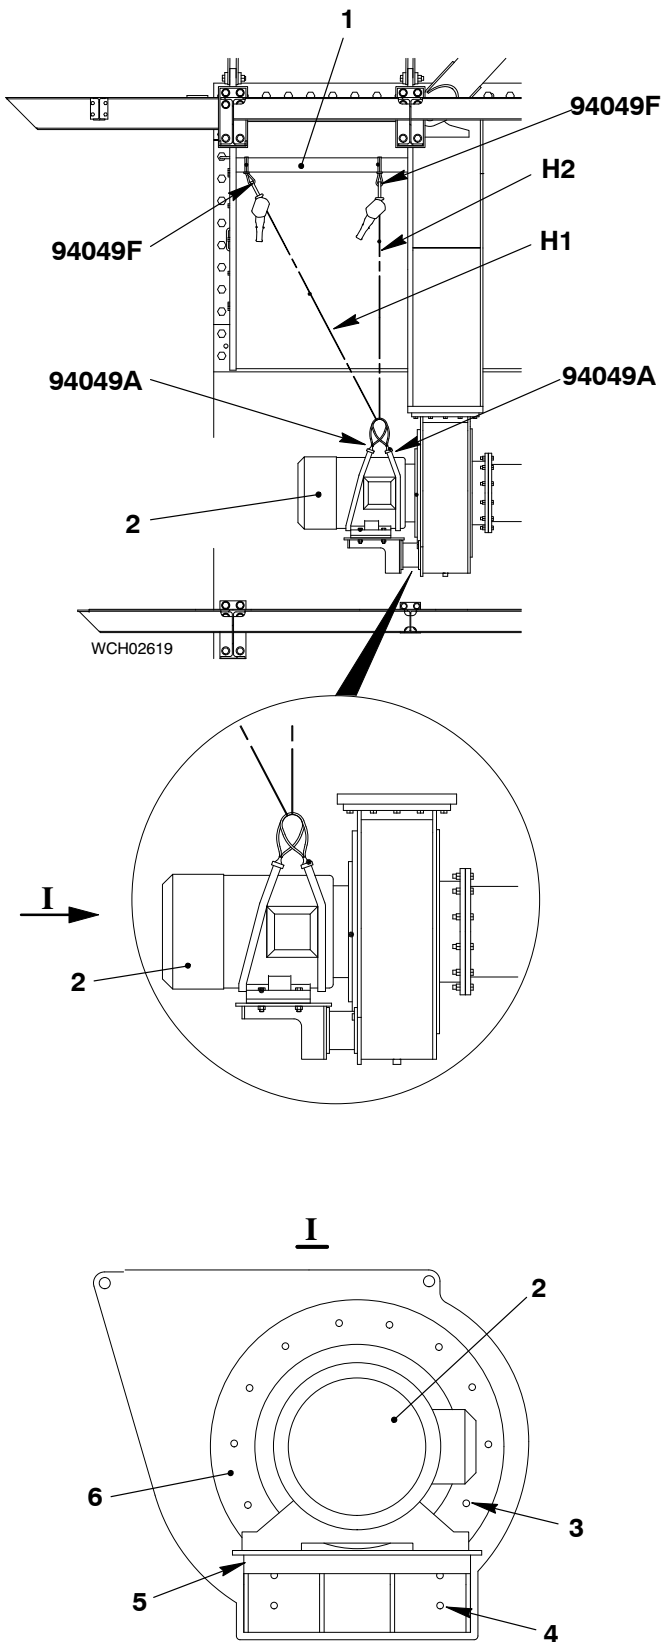

Fig. 2
- 4) Disconnect the electrical connection from the electric motor (2, Fig. 2).